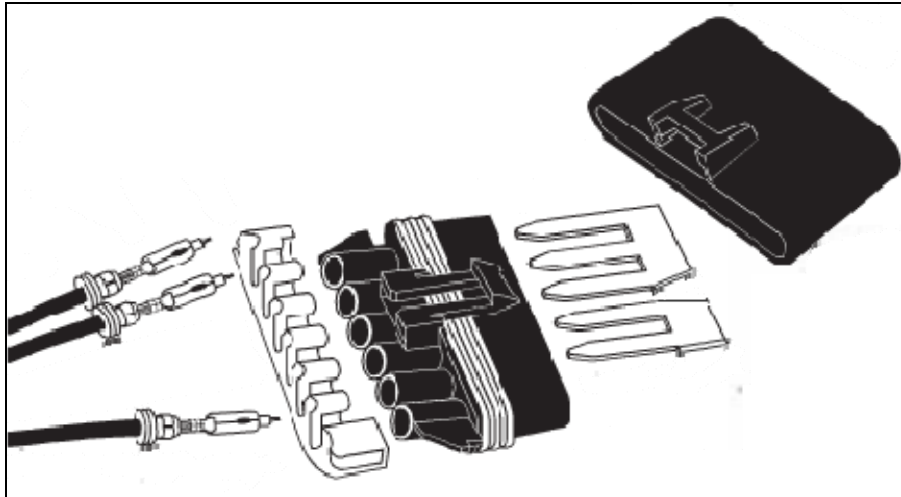

FIGURE 3
6. Cut the common bar 6-position 564138 in order to have one common bar 2-position and one common bar 3-position (figure 3).